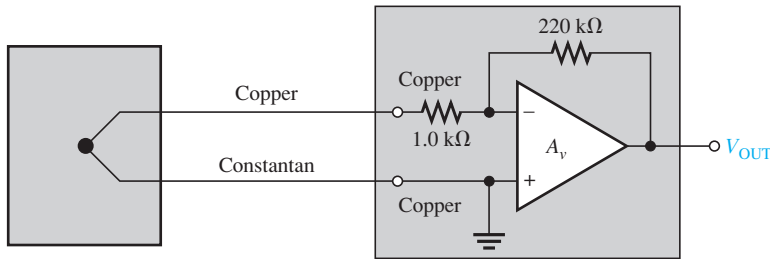

FIGURE 15-46
- Determine the output voltage of the op-amp in Figure 15-46 if the thermocouple is measuring a temperature of 400°C and the circuit itself is at 25°C . Refer to Table 15-2.